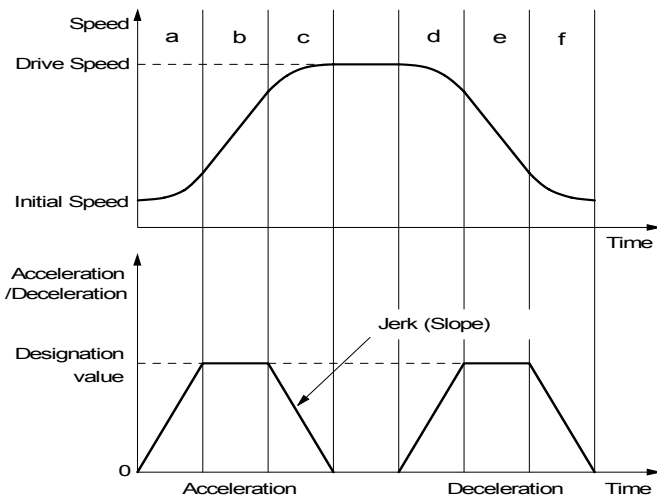

Fig.2.13 S-Curve Acceleration/Deceleration Driving
This IC creates an S curve by increasing/reducing acceleration/decelerations in a primary line at acceleration and deceleration of drive speed. Figure 2.13 shows the operation of S-curve acceleration/deceleration. When driving starts, the acceleration increases on a straight line at the specified jerk (K). In this case, the speed data forms a secondary parabolic curve (section a). When acceleration reaches designation value (A), acceleration is maintained. In this case, the speed data forms an increase on a straight line (section b). If the difference between the specified drive speed (V) and the current speed becomes less than the speed that was utilized at the increase of acceleration, the acceleration starts to decrease towards 0. The decrease ratio is the same as the increase ratio and the acceleration decreases in a linear form of the specified jerk (K). In this case, the speed data forms a secondary parabolic curve (section c). Thus, the case that acceleration has a constant part in its acceleration, this book calls it The Partial S curve Acceleration. On the other hand, if the difference between the specified drive speed (V) and the current speed becomes less than the speed that was utilized at the increase of acceleration before acceleration reaches designation value (A), section shifts from a to c without b section. Thus, the case that acceleration does not have a constant part in its acceleration, it calls The Perfect S curve Acceleration.